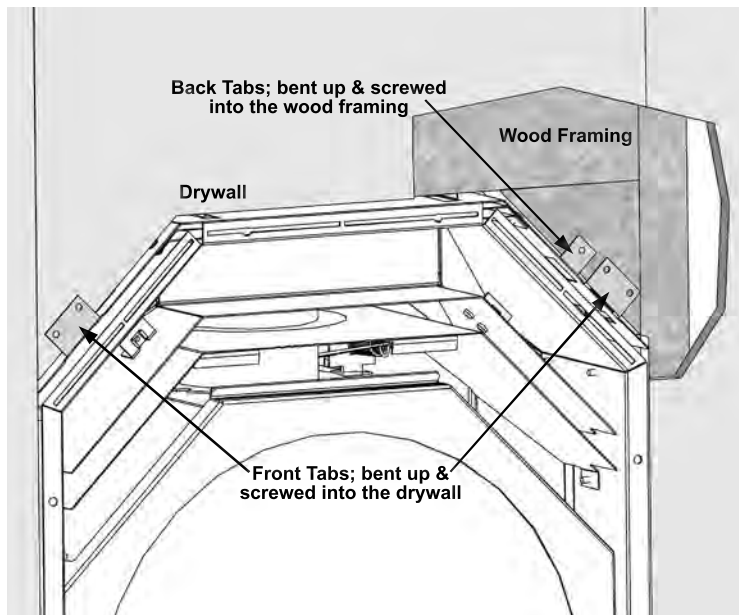
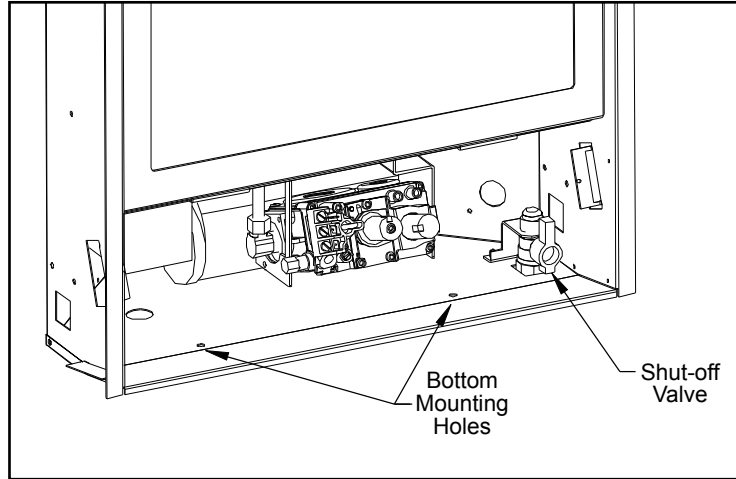

Figure 15. Top Mounting brackets.
Figure 16. Bottom Mounting Holes.6
The Haven can be secured to the framing and the flooring. At either side of the top there are two (2) brackets with holes for screws or nails (Figure 15); the back tabs are to mount to the wood framing and the front ones are to mount to the drywall. At the bottom there are two (2) mounting holes in the unit base below the firebox, which allows for screws or nails to mount to the floor (Figure 16).